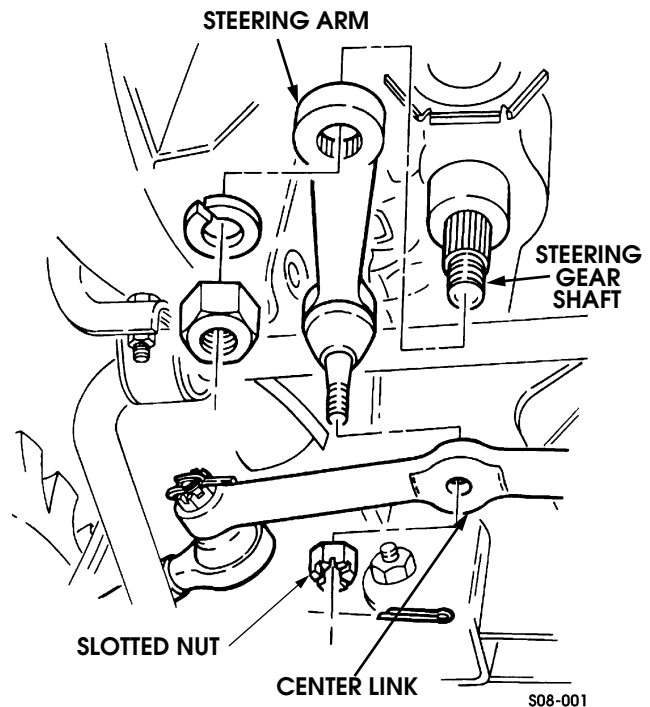

Figure 8-2: Steering (Pitman) Arm Removal
2. Remove the nut and lock washer from the steering gear shaft (Figure 8-2). Using puller J-42548, remove the pitman arm from the steering gear shaft.